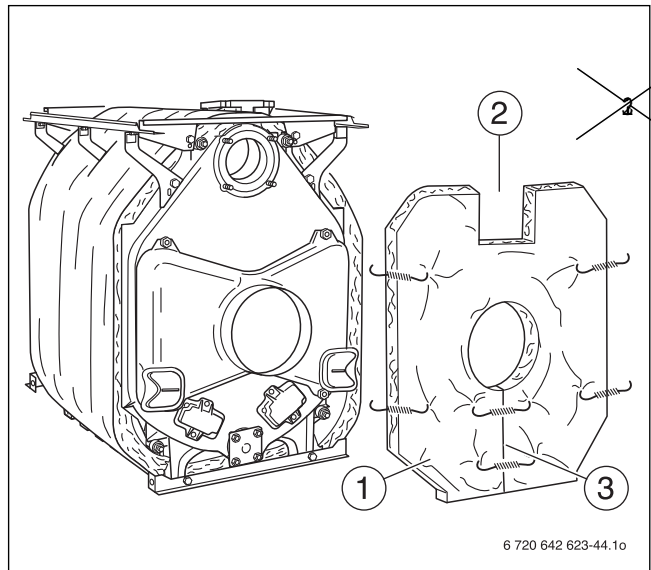

Fig. 46 Fitting the thermal insulation for the rear section
- ▶ Push back rear section thermal insulation (→ Fig. 46, [1]) onto the flue outlet. The cut-out for the boiler return (→ Fig. 46, [2]) must point upwards.
- ▶ Close the slot below the flue outlet with a spring hook (→ Fig. 46, [3]).